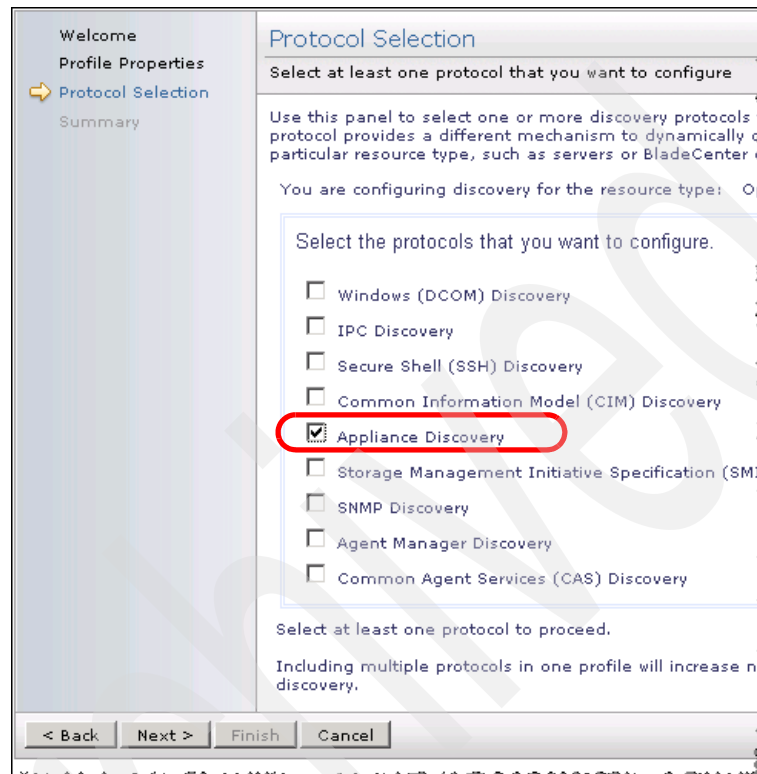

Figure 9-11 Advanced Discovery Wizard: Protocol Selection
3. You can select many different types of protocols. Select **Appliance Discovery** for the Smart Works gateway, as shown in Figure 9-11, which communicates using HTTP. Then, click **Next**.